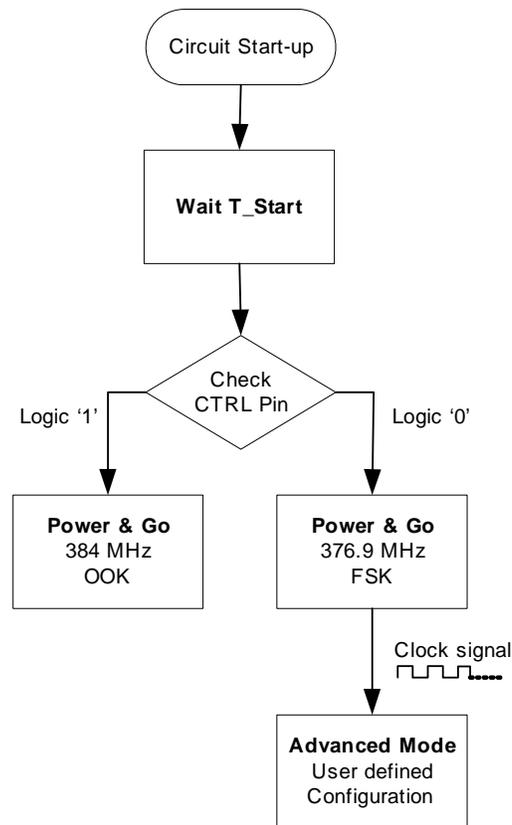

Figure 3. SX1241 Mode Selection
The SX1241 has two application modes. These are selected depending upon the load presented to the Control pin (6) at power-on of the device, as shown on Figure 3. By connecting the Control pin to logical '0' or '1' the 'Power & Go' mode is selected. A full description of operation in this mode is given in Section 3.1. By presenting a logical zero to the Control input, Advanced mode can be accessed by subsequent clocking of the control pin, in conjunction with the Data pin (2) permits programming of the SX1241 configuration register and manual control of the transmitter. For more information on Advanced Mode operation please consult Section 3.2. The diagram below summarises the mode selection process.
Advanced mode can be accessed as described on Figure 3. Programming is performed via a two wire interface (TWI) formed by CTRL and DATA pins.
When powering up the circuit (microcontroller and SX1241), the logic level of the CTRL pin is sampled after T_START, as described on Figure 3. During T_START, the microcontroller IO driving the CTRL pin must be configured as an output, driving the CTRL pin to the desired state.